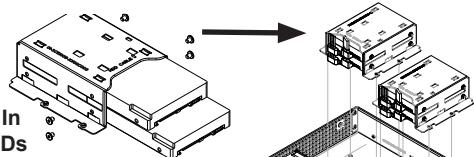
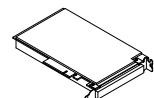

Figure 5-2. Two 2.5" HDDs In
Figure 5-4. Two 2.5" Hard Drives and One
2. Install the hard drives into the hard drive brackets and secure them to the bracket with the screws provided, as illustrated in Figure 5-2.
3. Place the hard drives and brackets into the chassis as illustrated in Figure 5-2 or Figure 5-4 on the following page. Orient two or more drives with the cable connections facing the left of the chassis.